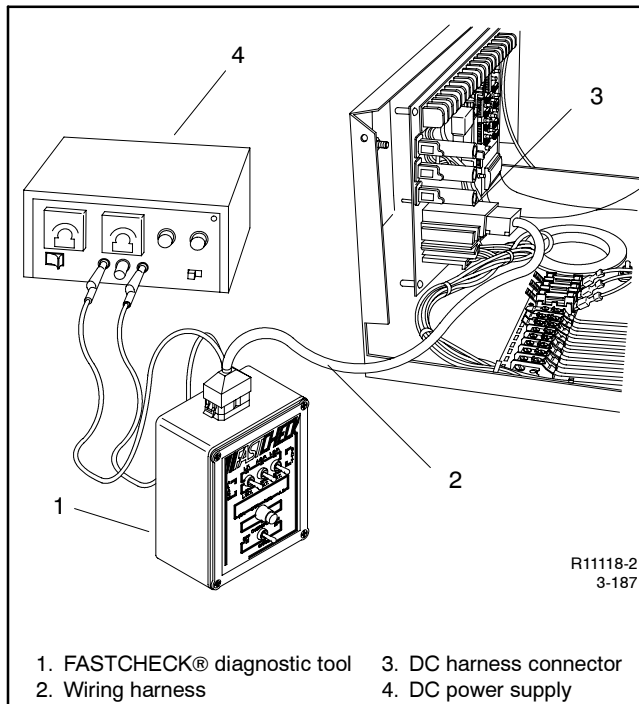

Figure 3-24 FASTCHECK® Connections
1. Unplug the DC engine harness from the DC harness connector (P1). See Figure 3-24.